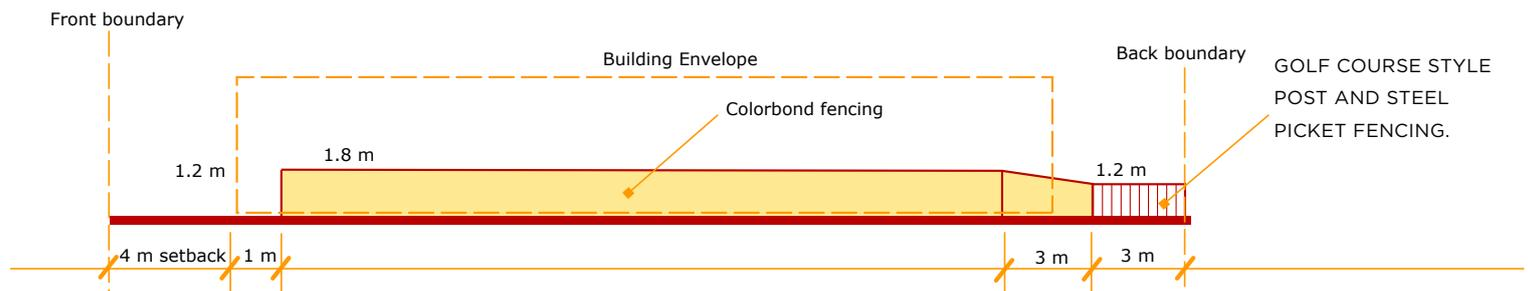

Figure 1 - Side fence elevation - Golf Course Lots
- Side fences to the golf course and lake lots are to change height as per Figure 1.
- Purchasers wanting fencing to rear of lots abutting lakes is at the cost of the purchaser and must be a 1.2m steel picket as is used on the golf course. And constructed in accordance with Figure 1. Colour and style to match existing.